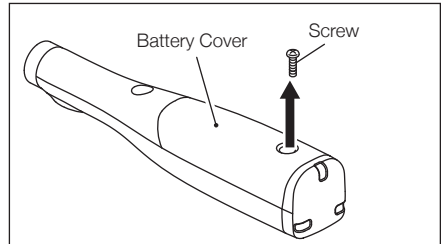

Fig. 14
3. Remove the screw fixing the battery cover with a Phillips screwdriver. (Fig. 14)